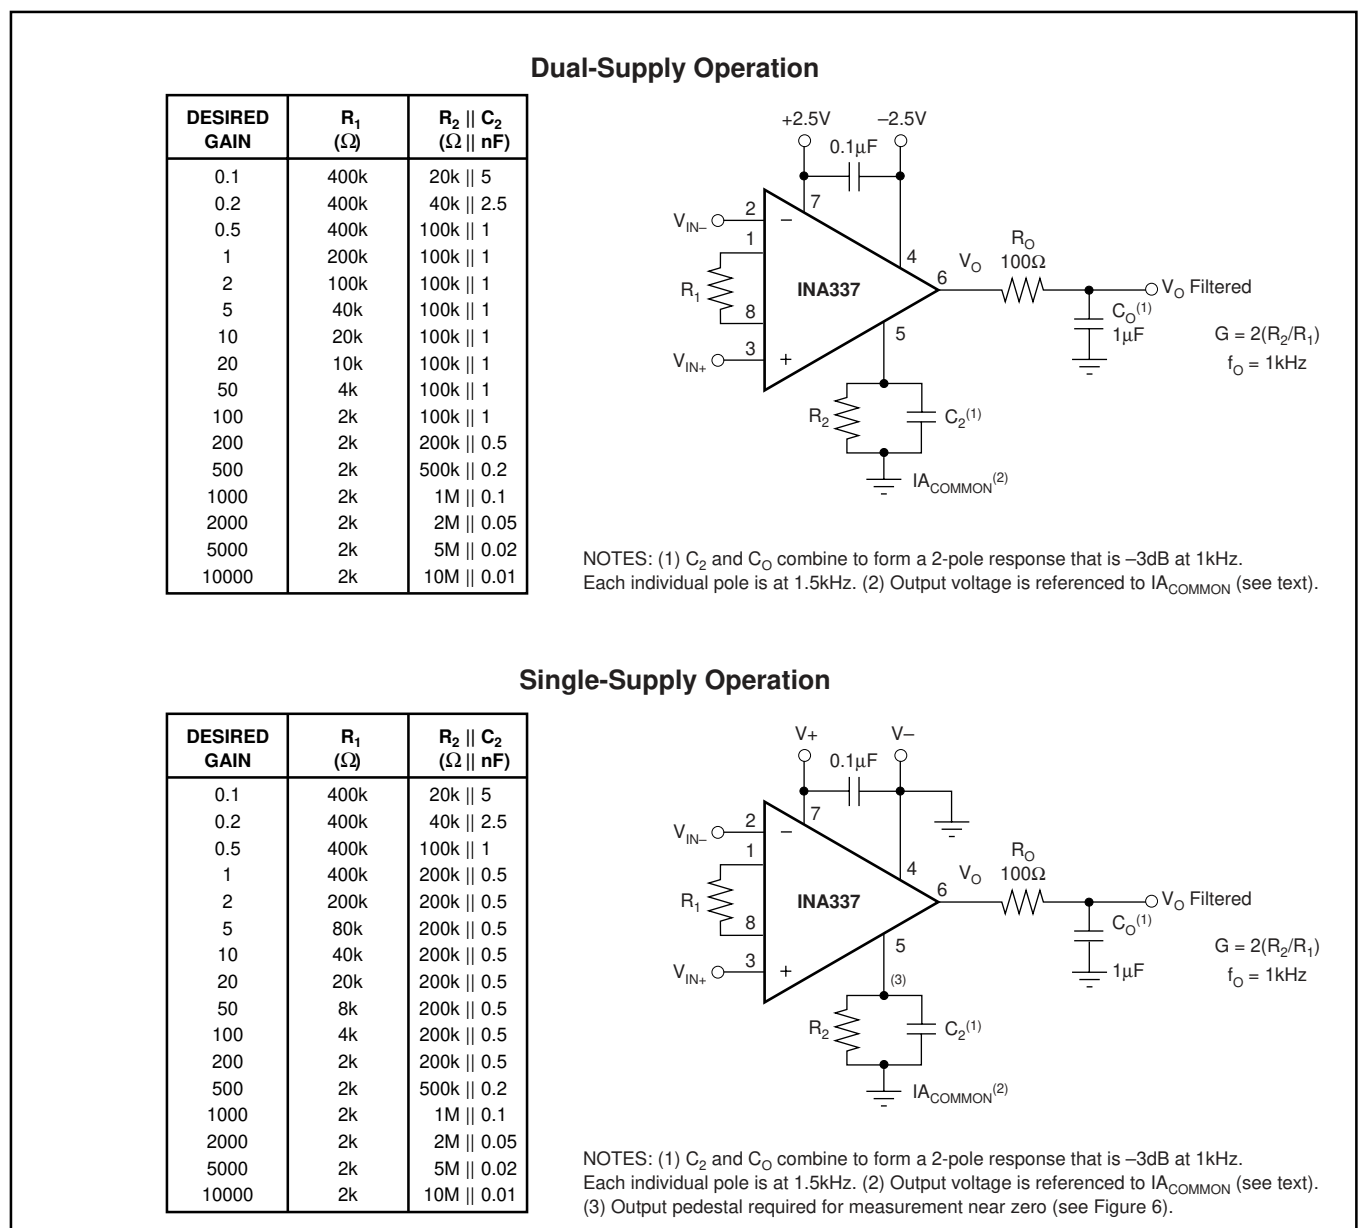

FIGURE 1. Basic Connections. NOTE: Connections for INA338 differ—see Pin Configuration for detail.
NOTES: (1) 1000-hour life test at  $150^{\circ}C$  demonstrated randomly distributed variation in the range of measurement limits—approximately  $10\mu V$ . (2) See Applications Information section, Figures 1 and 2. (3) Does not include error and TCR of external gain-setting resistors. (4) Dynamic response is limited by filtering. Higher bandwidths can be achieved by adjusting the filter. (5) See Typical Characteristics, "Input Offset Voltage vs Warm-Up Time".
Figure 1 shows the basic connections required for operation of the INA337. A 0.1 μF capacitor, placed close to and across the power-supply pins is strongly recommended for highest accuracy. R0C0 is an output filter that minimizes auto-correction circuitry noise. This output filter may also serve as an anti-aliasing filter ahead of an Analog-to-Digital (A/D) converter. It is also optional based on desired precision.
Resistor values for commonly used gains are shown in Figure 1. Gain-set resistor values for best performance are different for +5V single-supply and for ±2.5V dual-supply operation. Optimum value for R1 can be calculated by:
Circuit layout and supply bypassing can affect performance. Minimize the stray capacitance on pins 1 and 8. Use recommended supply bypassing, including a capacitor directly from pin 7 to pin 4 ( $V_+$  to  $V_-$ ), even with dual (split) power supplies (see Figure 1).